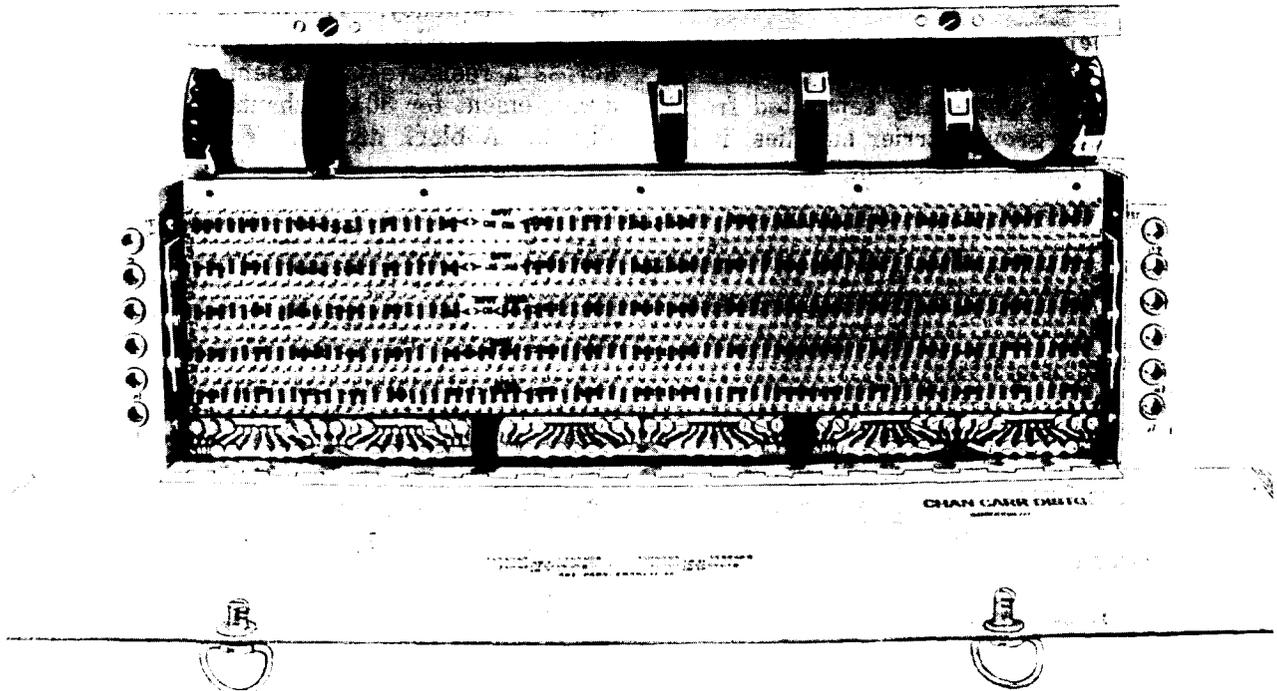
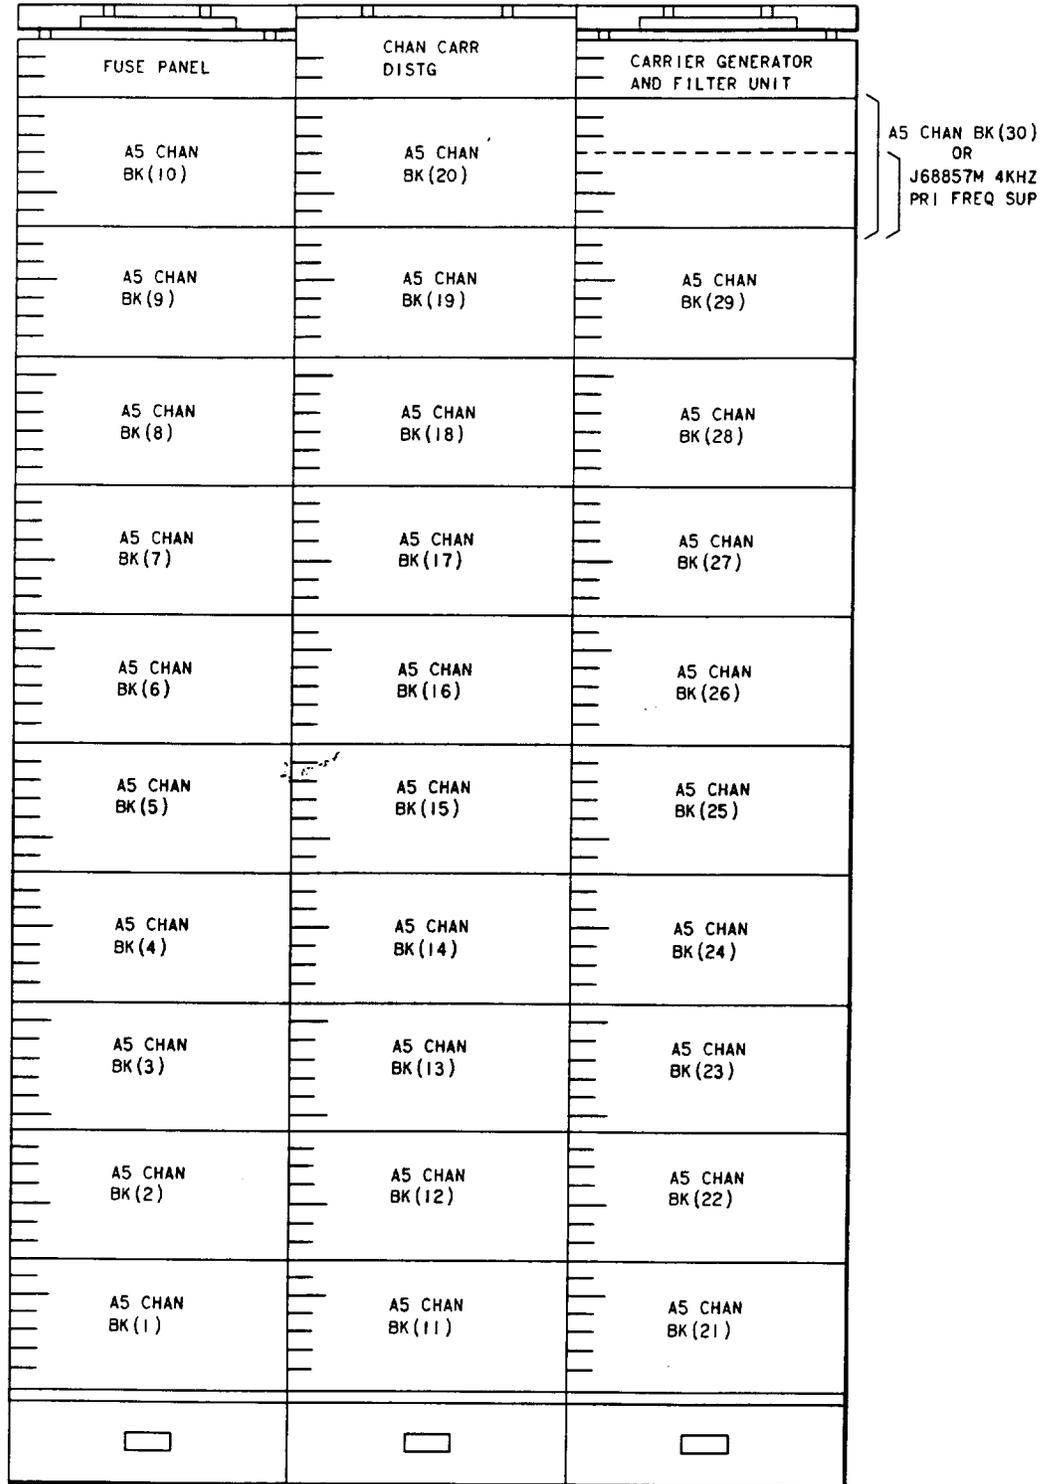
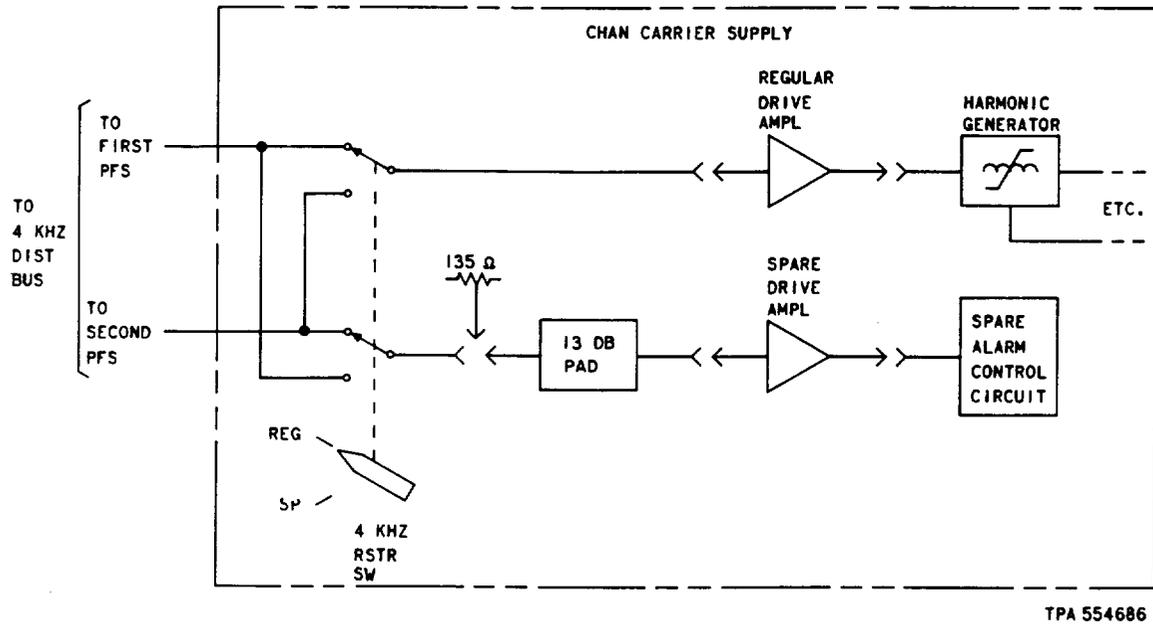

Fig. 2—J68857A Channel Carrier Distributing Unit—Front Cover Lowered
Fig. 3—Typical Bay Arrangement for 30 A5 Channel Banks
Fig. 4—Channel Carrier Supply—Block Diagram
**2.04** The selected carrier frequencies are connected to individual distribution buses within the J68857A distribution unit (Fig. 2). The distribution unit supplies the 12 carrier frequencies to a maximum of 30 channel modems. Test jacks at the distribution unit are provided to measure the power of each carrier frequency. The power level at each bus may be adjusted by means of screw-down connectors across a resistive pad assembly. A typical bay arrangement for 30 A5 channel banks is shown in Fig. 3. A block diagram of the channel carrier supply circuit and its connecting circuits is shown in Fig. 4.
The purpose of the switch is to provide manual restoration of the channel carrier supply in the event of failure of the regular 4-kHz source (see Fig. 4).
**3.03** Both the carrier generator unit and the distribution unit are generally mounted at the top of the bay containing the associated A5 channel banks (Fig. 3).